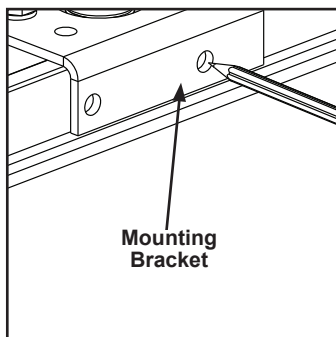

Figure 3-70
- Step 1. Use rail mounting bracket as template to mark rail. See Figure 3-70